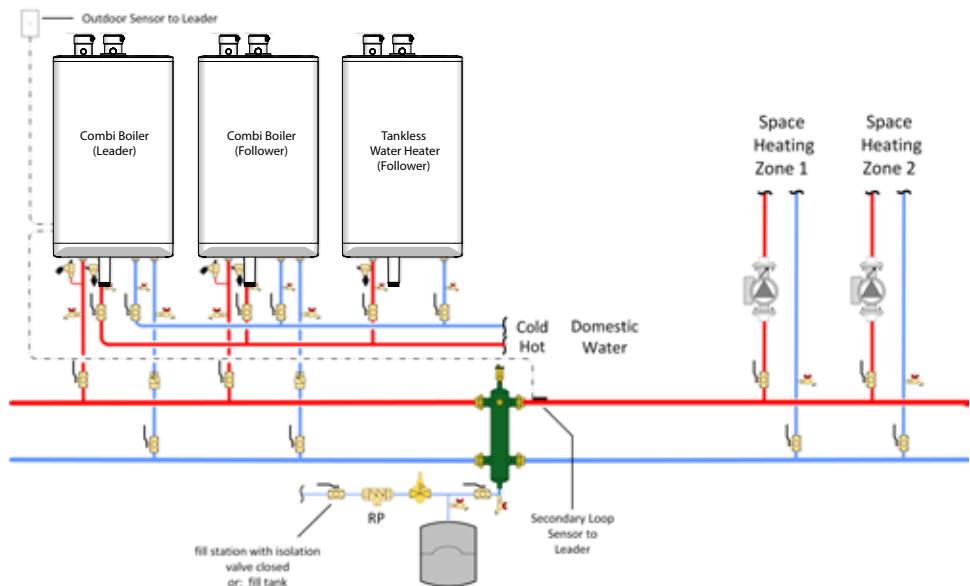

Figure 4: Typical Combi Boiler and Tankless Water Heater cascade piping – concept drawing. This drawing is only a simple schematic guide
For space heating, the cascade system should utilize an appropriately sized common boiler header and hydraulic separator to isolate cascade system water flow from the system water flow as shown in Figure 4. Reference Table 7 for minimum common boiler header sizing.
For domestic water heating, the cascade system should utilize an appropriately sized common header as shown in Figure 4. Reference Table 9 for minimum common domestic hot water header sizing.
- 4. Enable cascade function (P130)** – Enable the cascade function of each unit according to the cascade system type. The cascade function of Heating Boilers can only be enabled for space heating (P130 = 2). The cascade function of Combi Boilers can be enabled for any combination of space heating / DHW (P130 = 1, 2, 3) depending on the application. A Combi Boiler will respond to any local demand not enabled for cascade, see Figure 4.